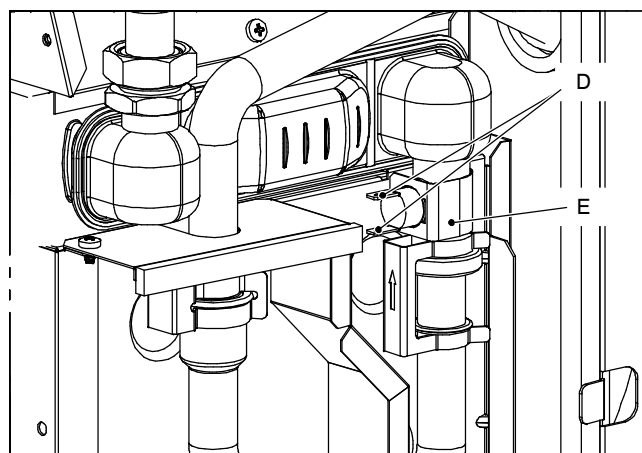

Fig. 80
- 3 Disconnect the wiring *D* (detail in Fig. 80).